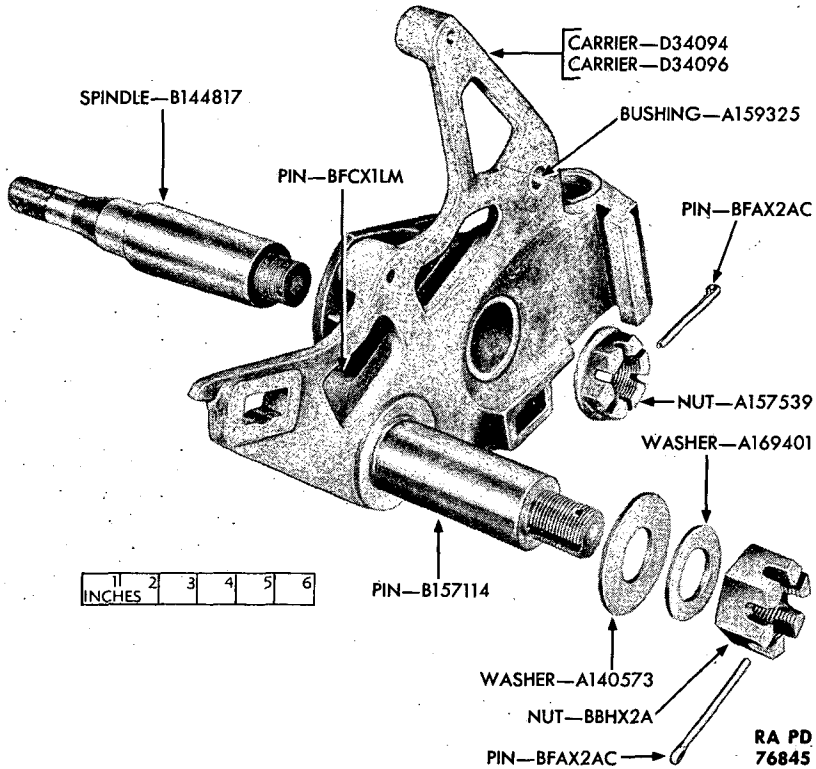

Figure 134—Wheel Carrier Assembly
(1) Clean all parts of the bottom carriage, wheel carriers, wheel carrier latch, firing base, firing base lock, and traversing rack thoroughly (figs. 134, 139, 140, 141, and 142).
(2) Examine all parts carefully for cracks, wear, or breakage.
(3) Replace all worn or damaged parts.
(4) Remove all burrs, nicks, or scores from the various parts with a smooth file. Polish with crocus cloth, and clean thoroughly.